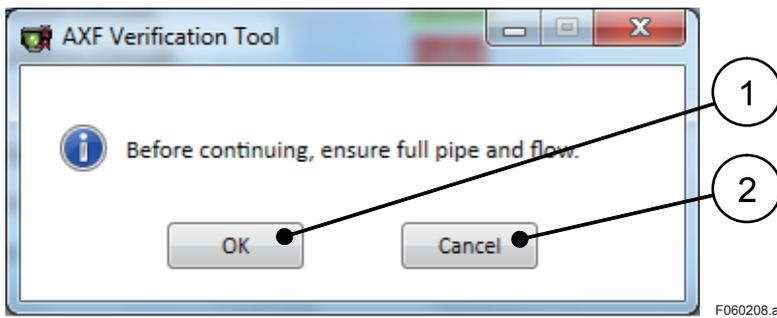

Figure 6.2.8 “Flow Confirmation” Dialog
- 2) Select “Flow (1)” and click “Start Verification (2)”.
- 3) Before running “Circuit” check and “Device Status” check, **Figure 6.2.8** is displayed automatically.